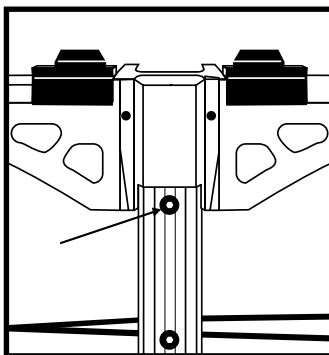

Figure 5B
1. Remove and discard the front flat head screw in the underside of the Main Frame. Figure 5B.